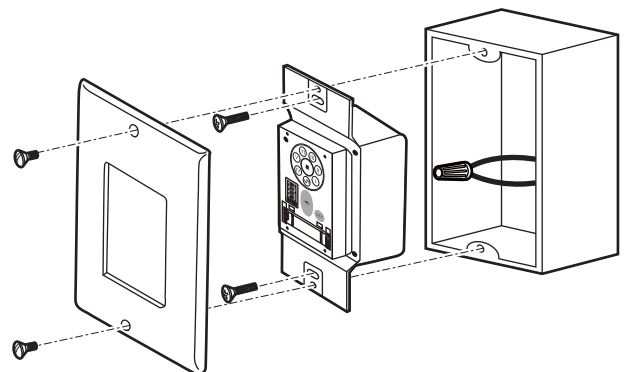

Figure 9
2. Carefully tuck the wire connections inside the outlet box. Secure the wall control with the two wall switch screws provided. (Fig. 9)